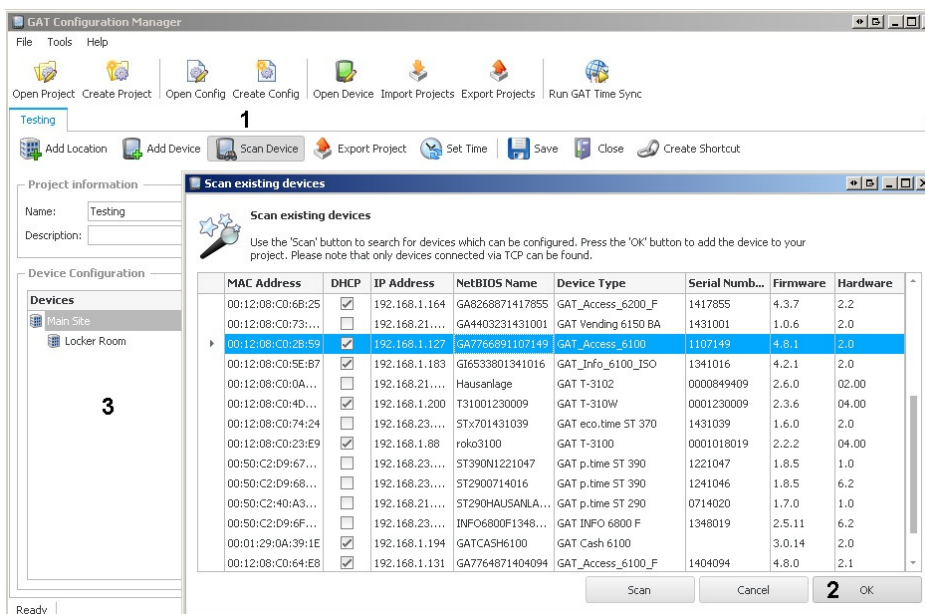

Figure 4.17 – Search and select device
- Once a project is established, click on the “Scan Device” icon (1 in Figure 4.17).
- The selected device is highlighted in blue as shown in Figure 4.17.
- Click on "OK" (2 in Figure 4.17)
- The selected device is added to the "Devices" list (3 in Figure 4.17).